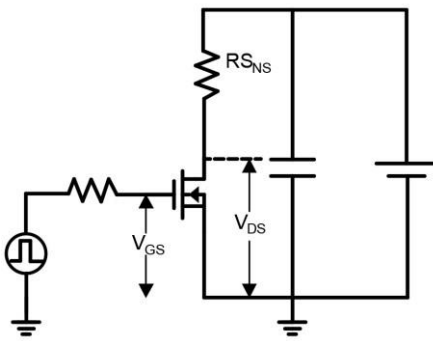

Figure 17. Dynamic R_{DS(on)} Test Circuit
C. Dynamic on-resistance; see Figure 17 and 18 for test circuit and configurations